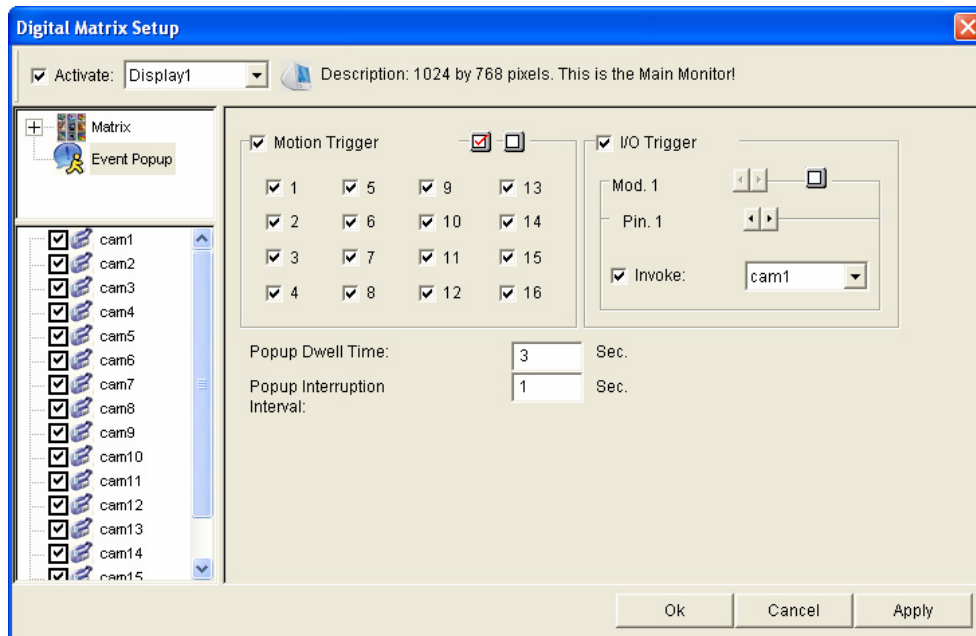

Figure 3-43
2. To configure pop-up alert, in the upper left column, click **Event Popup**. Figure 3-43 appears.